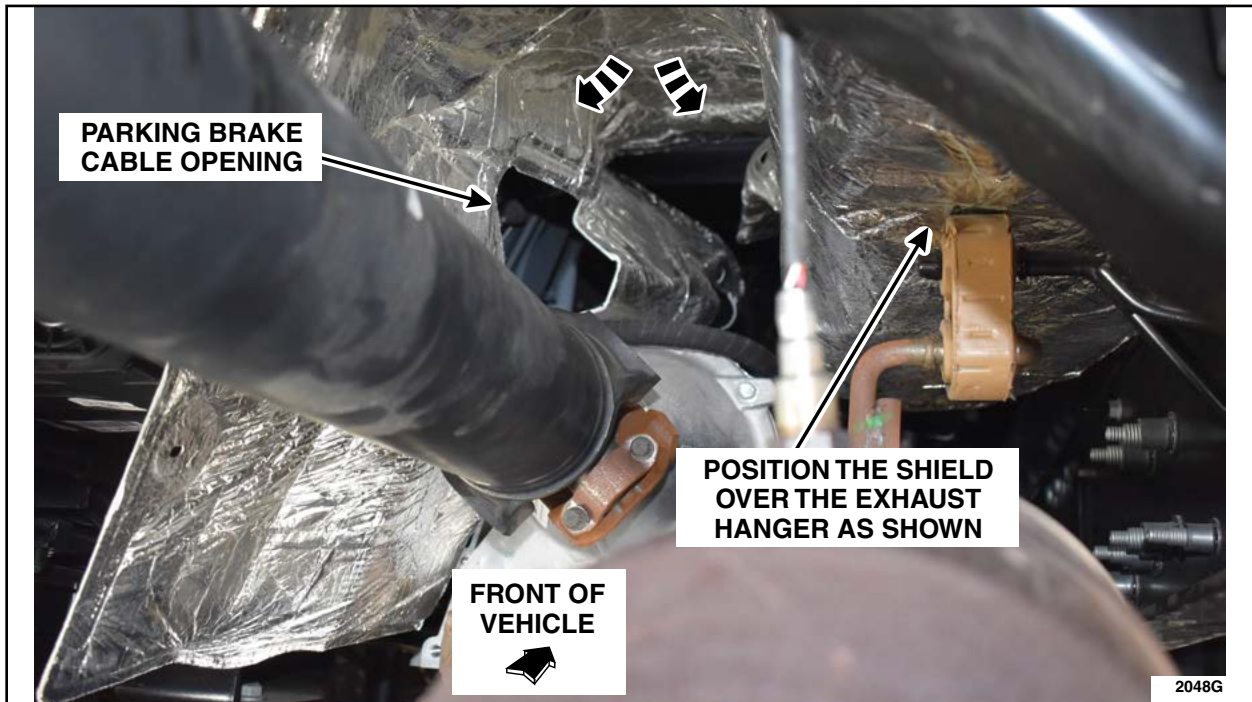

FIGURE 23
4. Continue to work the shield forward until its over the transmission. Once over the transmission, begin to open the shield up and position it loosely in place. See Figure 23.